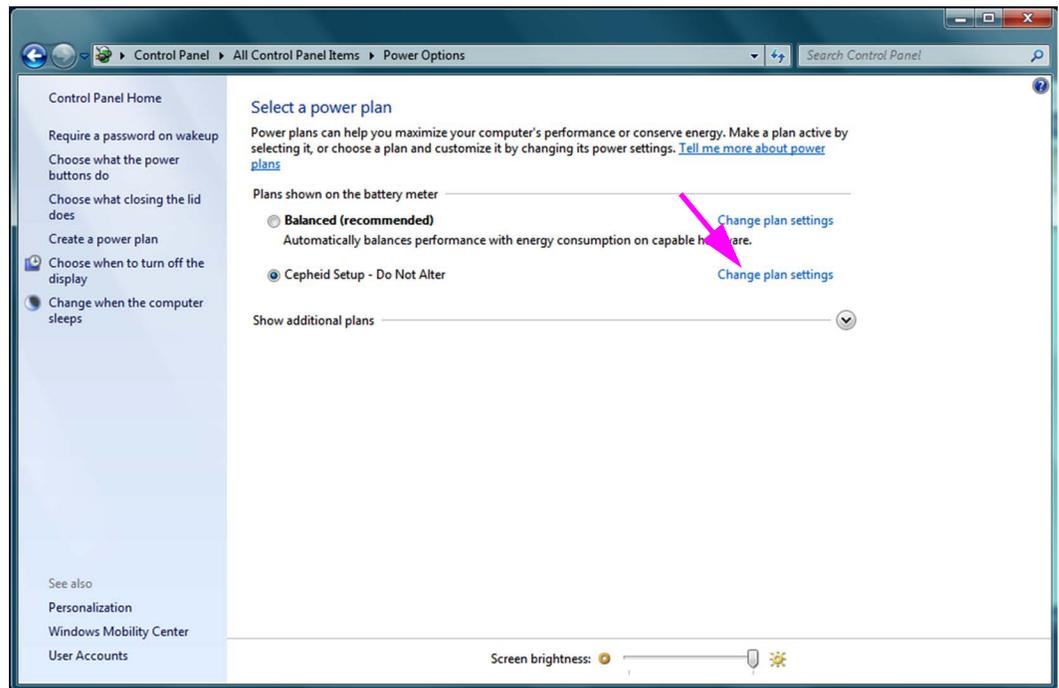
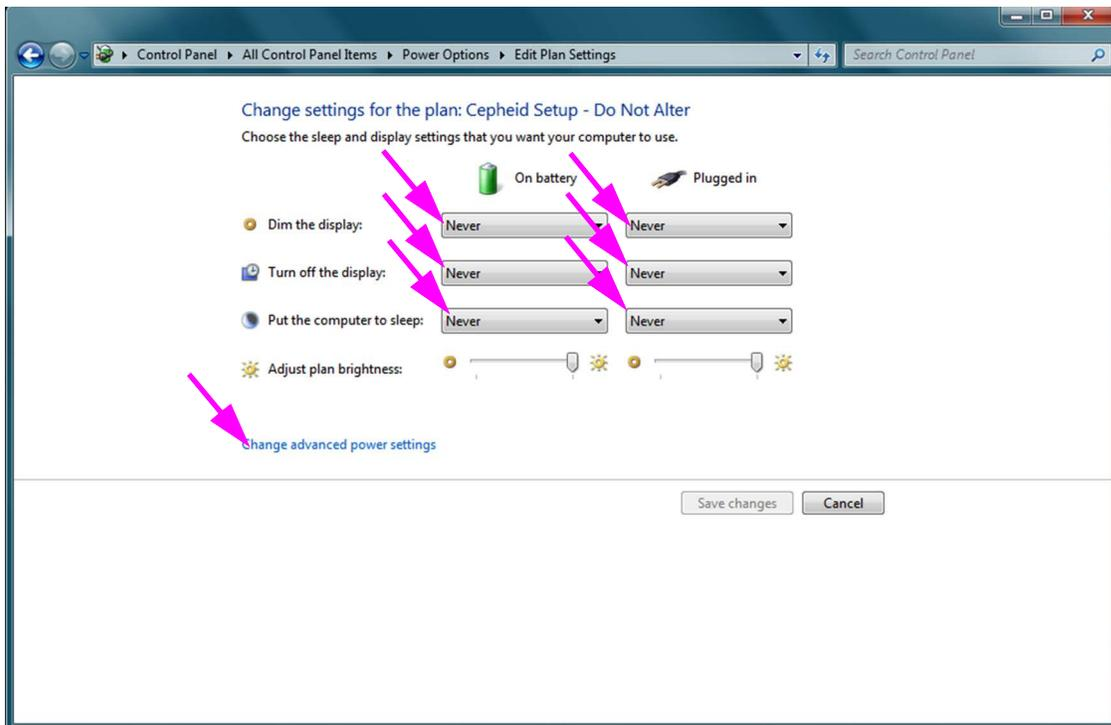
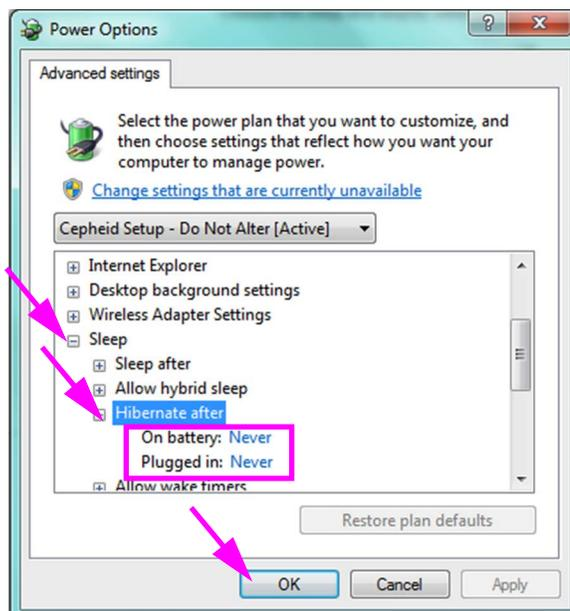
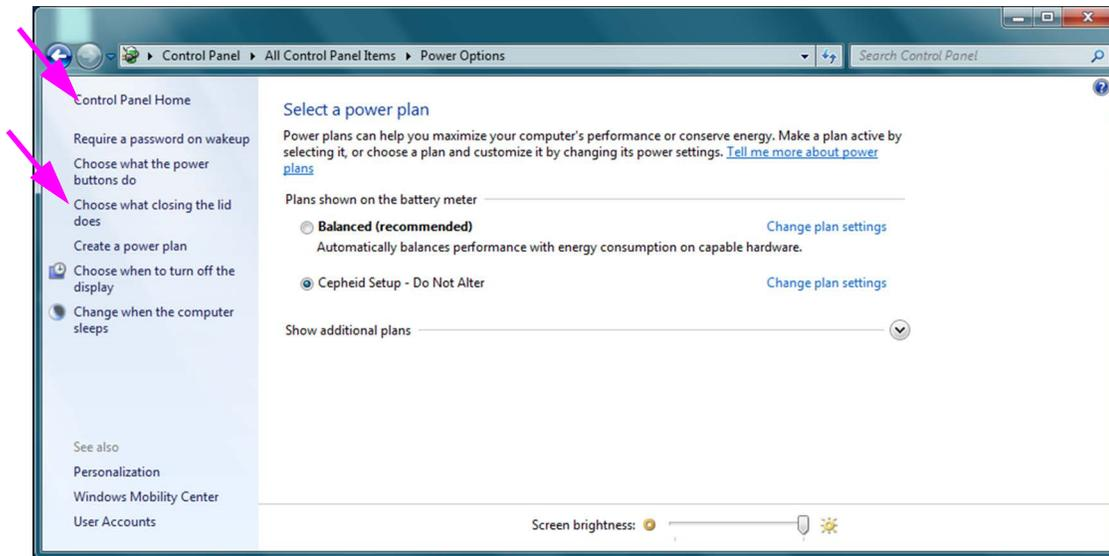

Figure 2-19. Power Options Window
Figure 2-20. Edit Plan Settings Window
Figure 2-21. Power Options—Advanced settings Window
Figure 2-22. Power Options Window
- Under the **Cepheid Setup—Do Not Alter** section, click **Change plan settings**. See Figure 2-19. The Edit Plan Settings windows appears. See Figure 2-20.
4. Make sure the **Dim the Display**, **Turn off the display** and **Put the computer to sleep** features are set to **Never** for both **On battery** and **Plugged in** options. See Figure 2-20.
5. Click on **Change advanced power settings** (see Figure 2-20). The Power Options Advanced settings window appears. See Figure 2-21.
6. In the Power Options Advanced settings window, double-click **Sleep** to expand the view, and then double-click **Hibernate after**. See Figure 2-21.
- A. **Desktop Computers:** Verify that **Setting** value is set to zero (0) or **Never**. If not, change the **Setting** value to zero (0) or **Never**.
- B. **Laptops Only:** Verify **On battery** and **Plugged in** values are set to **Never**. If not, click **ON battery** and/or **Plugged in**, and then use the up/down arrow keys to set their values to zero (0) on the selectable option.
8. Click **Cancel** to close the Edit Plan Settings window. The Power Options window appears (see Figure 2-22).
10. **Laptops Only:** Click **Cancel** to close the Edit Plan Settings window. The Power Options window is displayed (see Figure 2-19).